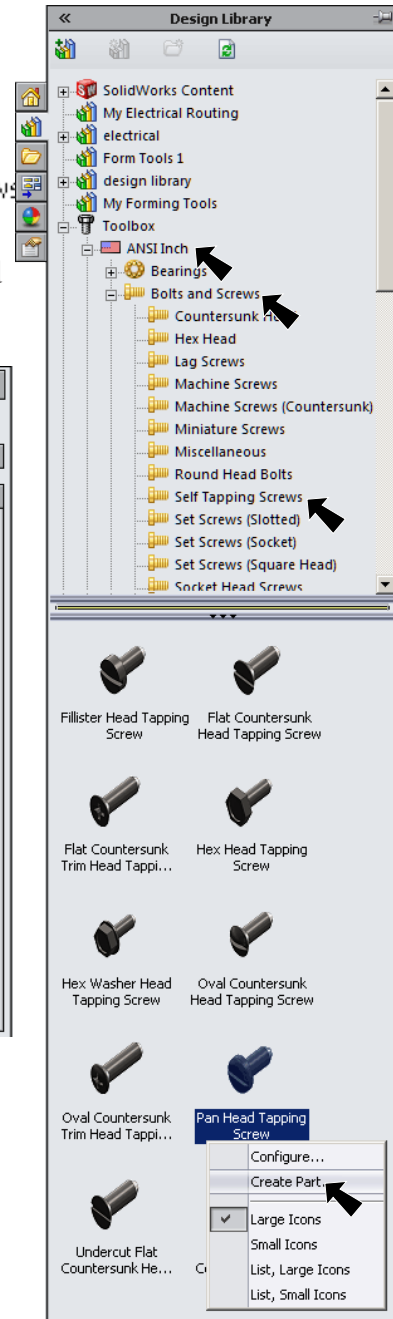

Fig. 1
Step 1. Click the **Design Library** tab  in the Task Pane, **Fig. 1**.
Step 3. In the lower pane, **right click Pan Head Tapping Screw** and click **Create Part**, **Fig. 1**.